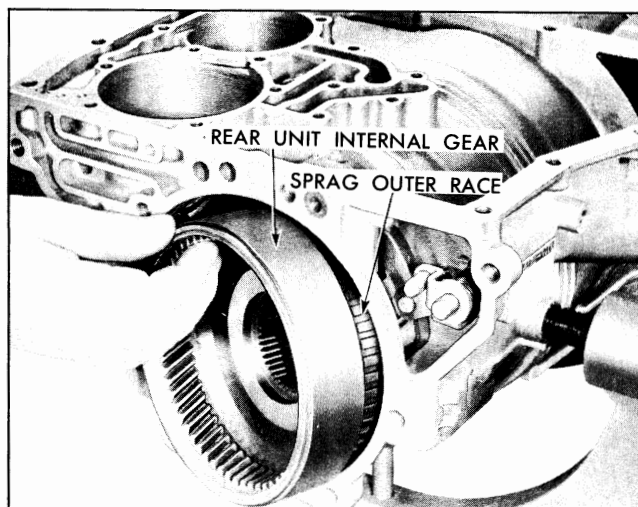

Fig. 7C-60 Removing Rear Internal Gear
17. Remove the front unit sun gear assembly, race, roller thrust bearing and race (Fig. 7C-61).